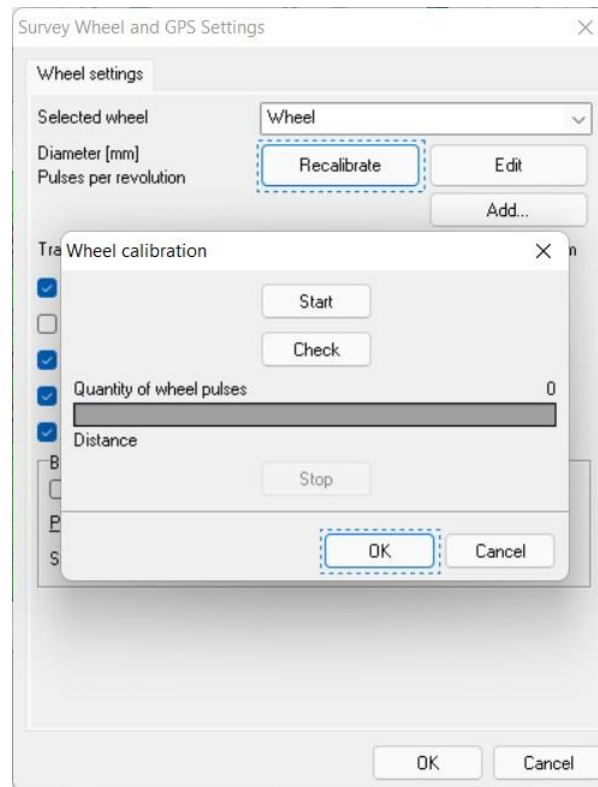

Fig.8.4. Survey wheel calibration
- **Calibrating** – the wheel can be calibrated (or recalibrated) by passing a precisely measured distance. In this case, user should select a calibration for an existing wheel, or add a new one and select a wheel calibration instead of its diameter and pulses per revolution. If selected wheel has a calibration possibility, the **Recalibration** button appears in the wheel settings window, press it and calibration window appears on the screen (Fig. 8.4). It is needed to establish a connection with the GPR and get an access to the wheel data, captured by the GPR for the wheel calibration. First of all, place the GPR antenna, with the connected wheel, at the starting point of the calibrating path. Setup all necessary settings of the GPR (take a look on the section 9. GPR tuning at the page 34) and turn it on. Press the **Start** button and move the antenna with a connected wheel for a precisely measured distance. Click the **Stop** button and enter the traveled distance. The software counts the number of pulses received from the wheel encoder to assign it to the entered distance. It will help to measure traveled distance precisely in the future. If necessary, you can check the calibration quality by pressing the **Check** button and passing the measuring distance again. These values should match with a correctly performed calibration.